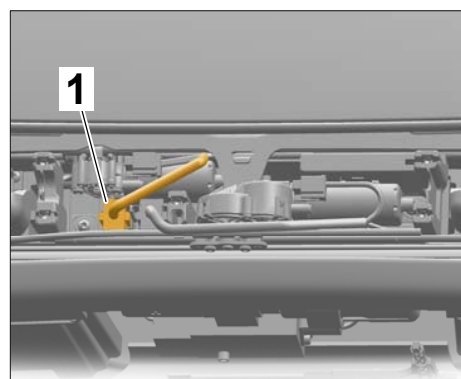

Figure 10
- 5.2 Disconnect electric plug connection for wind deflector drive ⇒ *Figure 10 -1-*.